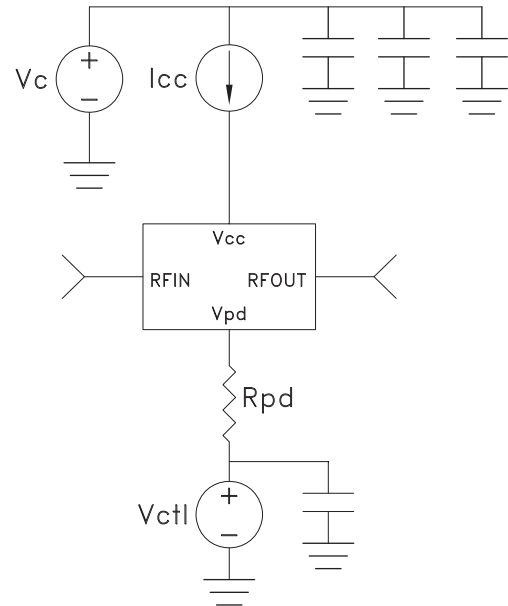

Figure 2 - HBT Self bias Amplifier with Control
1. The second HBT amplifier has current control. This is similar to the self biased HBT amplifier but now the current mirror has a control voltage. This is referred to as the power down (PD) control voltage which sets the current. Figure 2 shows a typical block schematic.